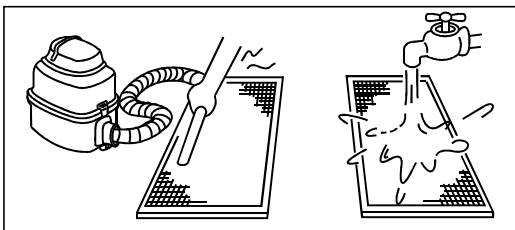

FIGURE 6:Clean The Air Filter
- 1.Tear down the two bolts signed A and B,take down the cover for air filter,see in Figure 6.